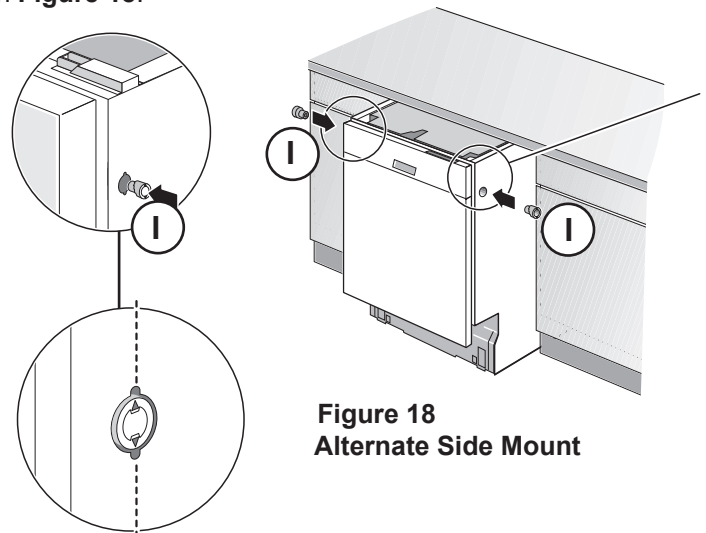

Figure 18
**Alternate Side Mount** for opening  $17\frac{3}{4}$  in (450 mm). Insert a side mount force distributor (Part I) in each side as shown in **Figure 18**.